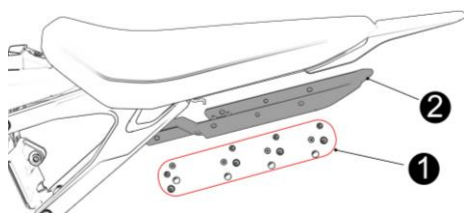

Fig 55
11.26 Disassemble rear and inner fender (see Fig 55)